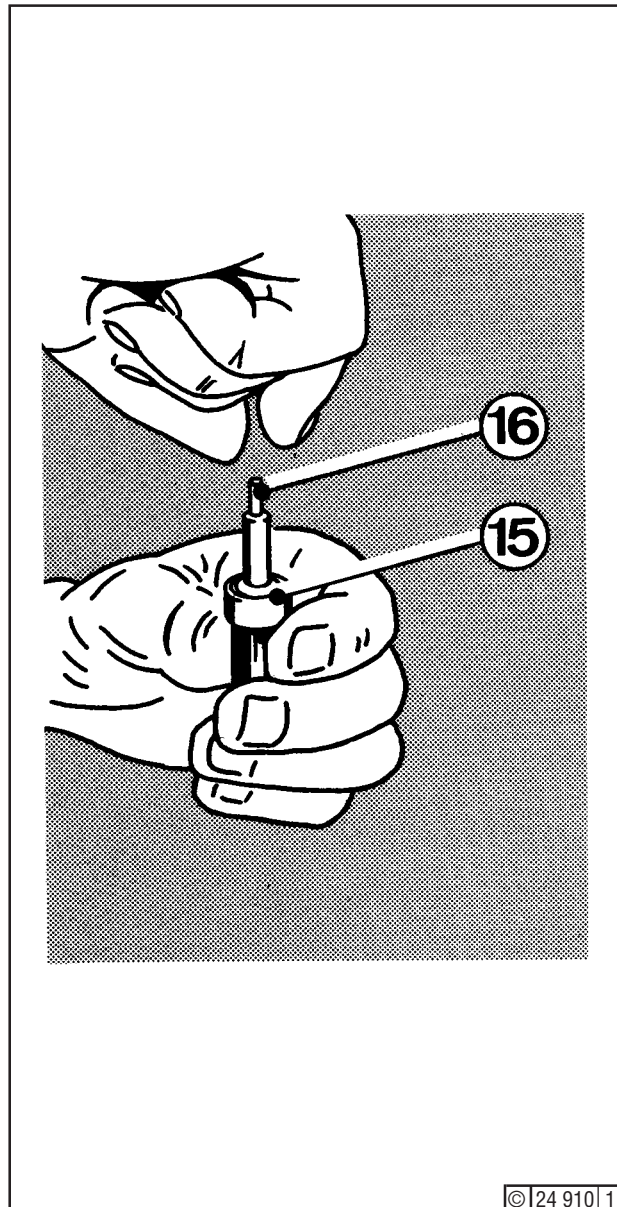

Fig. 2
Introduce needle (16) - Fig. 2 - with diesel fuel into nozzle element (15). When pulled out halfway by its thrust pin, the needle must sink back onto its seat by its own weight. Should the needle (16) bind, it must be renewed as a unit with nozzle element (15). Nozzles may not be reworked.